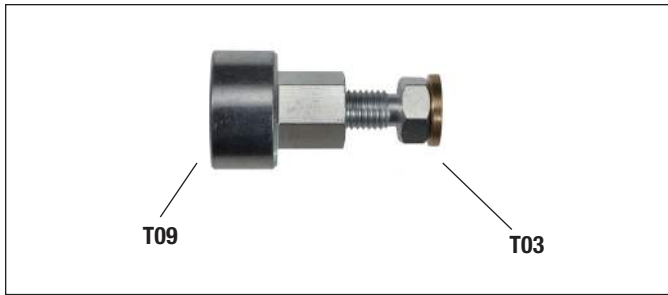
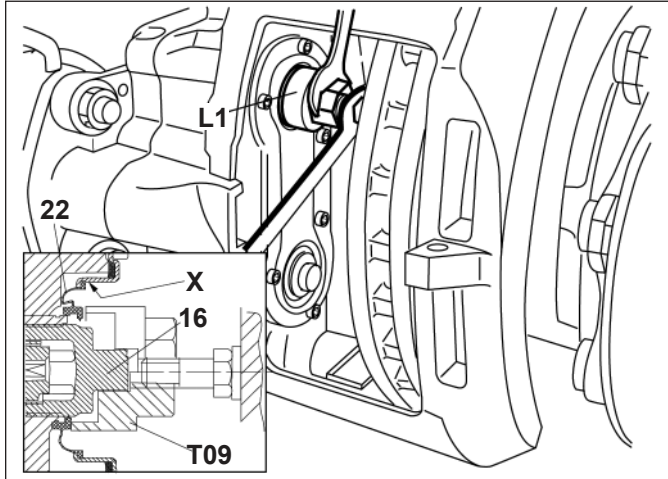

Figure 53 – On-Vehicle Inner Seal Tool (L1)
Figure 54 – On-Vehicle Inner Seal Installation
5.5.12 Position the replacement inner seal (22) over the threaded tube (16). See Figures 53 and 54 for the tools and installation arrangement used. Position the L1 (T03 + T09) with the short spacer (T03) in position as shown in Figure 54. Guide the tool over the end of the threaded tube (16). Install the new inner seal (22) into position by rotating the adjuster nut on the T03 portion of the tool, using an open-ended wrench.